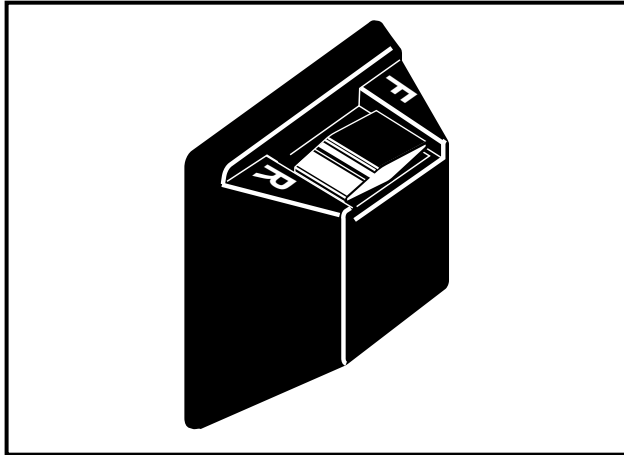

Figure 6 Forward/Reverse Rocker Switch
The Forward/Reverse (F&R) rocker switch is located in the same place as the Forward/Reverse handle on all other DS models; on the seat support panel below and to the right of the driver's right knee. The FORWARD (F) and REVERSE (R) positions are clearly marked on the F&R rocker switch. Push down the FORWARD (F) side of the switch to operate the vehicle in the forward direction, or push down the REVERSE (R) side of the switch to run the vehicle in reverse. When the F&R rocker switch is positioned in NEUTRAL, with neither side down, the vehicle will not operate if the accelerator pedal is depressed (**Figure 6, Page 9**). See following NOTE.